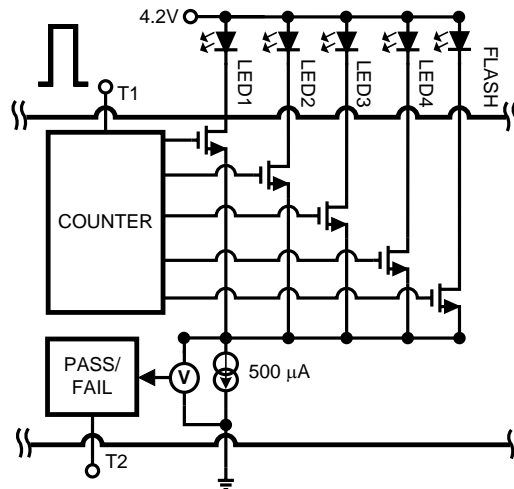
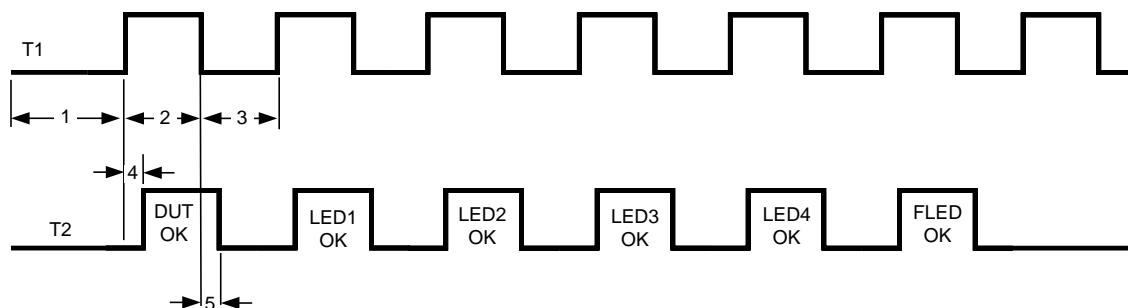

Figure 20. High Level Schematic Representation of the Test Interface
Figure 21. Test Interface Timing Diagram
- **Production test 1:** The LP5527 is assembled on a printed wiring board (PWB), but there is no LEDs connected on current sink outputs. An external 4.2V test voltage is supplied on the V_{DD1} and V_{DD2} pins, from which follows that the reset operating mode is entered with POR. Test pin T1 is pulled high. The chip will send an acknowledge “1” onto the T2 pin if the chip is in working order; otherwise T2 stays low (0). See Figure 21.
- **Production test 2:** The LP5527 is assembled on a PWB with the external components shown in LP5527 Block Diagram. 4.2V voltage is connected to V_{DD1} , V_{DD2} and FB pins (see Figure 20), from which follows that the reset operating mode is entered with POR. Test pin T1 is pulled high. The chip will send an acknowledge “1” onto the T2 pin if the chip is in working order; otherwise T2 stays low (0). If the ACK is “1”, a repetitive test pattern “0-1-0-1-0-1-0-1-0-1-0-1” is applied to T1 pin and if the LED corresponding the pattern (see Figure 21) is connected properly T2 gives “1”, otherwise T2 stays low. The last “1” disengages the test.